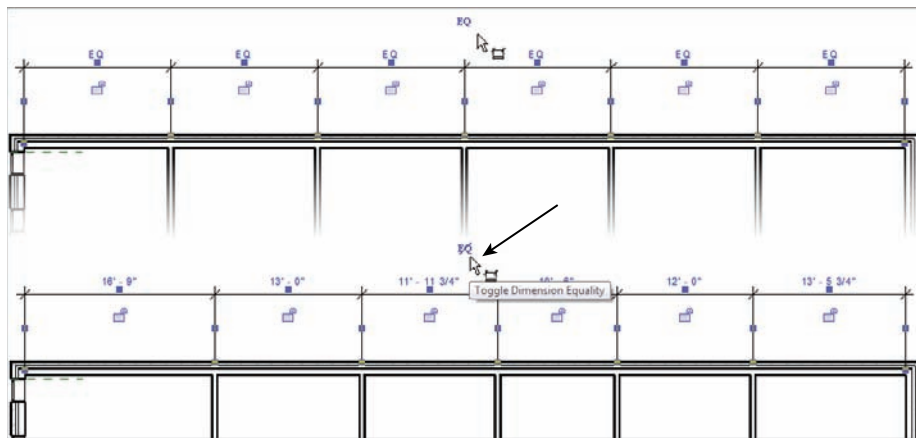

FIGURE 5.32 Before and after the EQ icon is selected
1. Find the EQ icon in the middle of the dimension string and pick it. The slash through it is now gone, and the walls have moved, as shown in Figure 5.32.